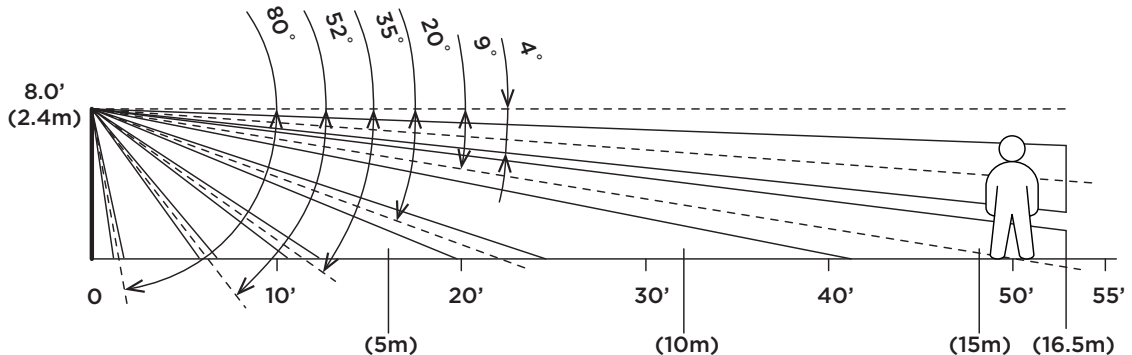

Figure 2: Detection Pattern
1. Remove the front cover. See Figure 2.